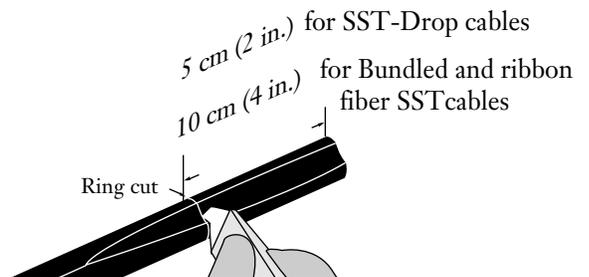

Figure 8
4.10 Use the hook blade knife to make a ring cut through the outer sheath 10 cm (4 in.) [5 cm (2 in.) for armored SST-Drop] from the end of the cable (Figure 8).